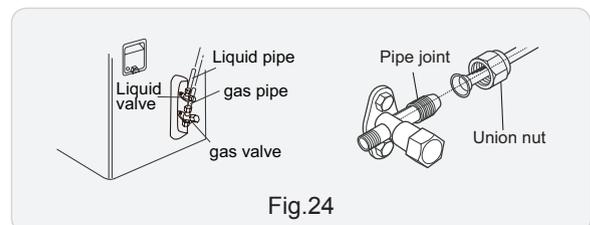

Fig.24
- (2) Remove the screw cap of valve and aim the pipe joint at the bellmouth of pipe.(As show in Fig.24)